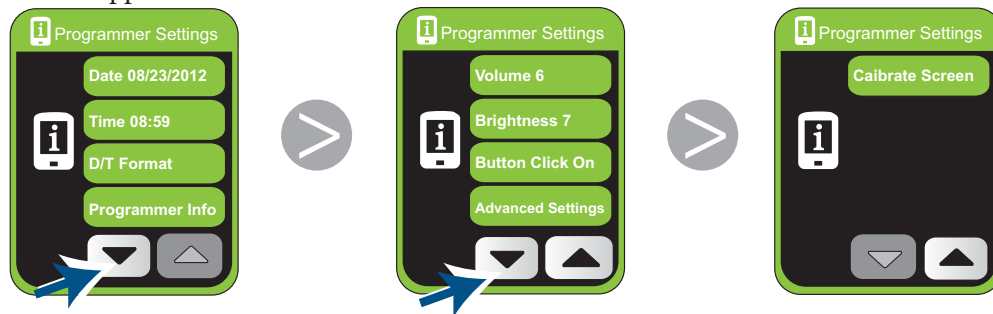

Figure 97. Viewing additional settings buttons
3. Tap  (Figure 97) until the Programmer Settings screen with the Calibrate Screen button appears.